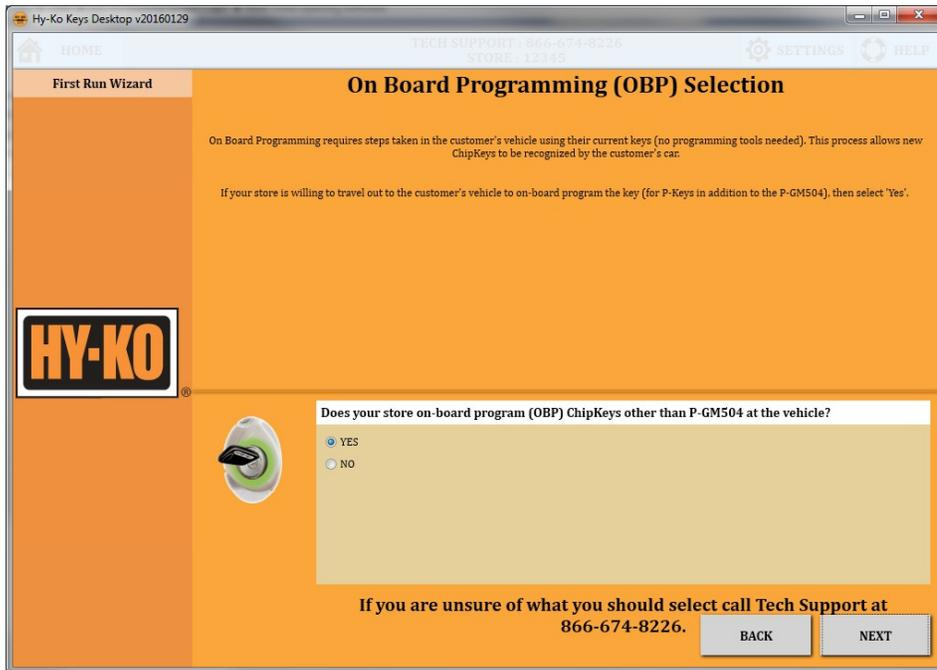

fig. 7
- Choose whether or not you your store on-board programs chipkeys other than the P-GM504 then click **'NEXT'** (see fig. 7).